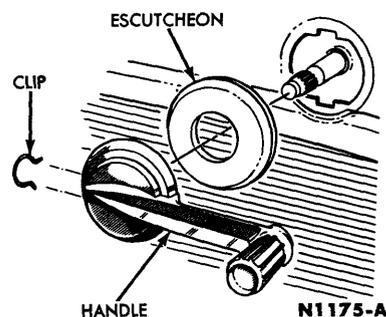

FIG. 7—Window Handle
2. On a car with a manual window regulator, remove the quarter window regulator handle (tool S9538-A) and escutcheon (Fig. 7).